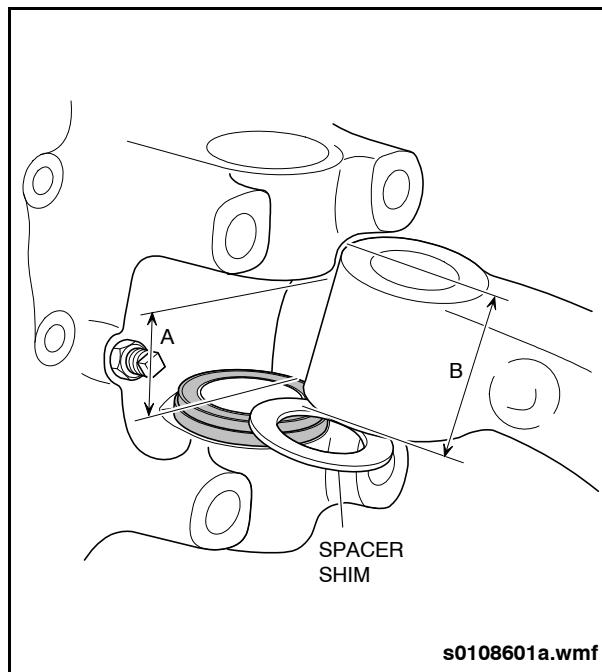

Fig. 1-26: Steering Knuckle Spacer Shim
- a. Measure space between lower surface of upper king pin boss on knuckle and thrust bearing face. Dimension "A". See "Fig. 1-26: Steering Knuckle Spacer Shim" on page 27.